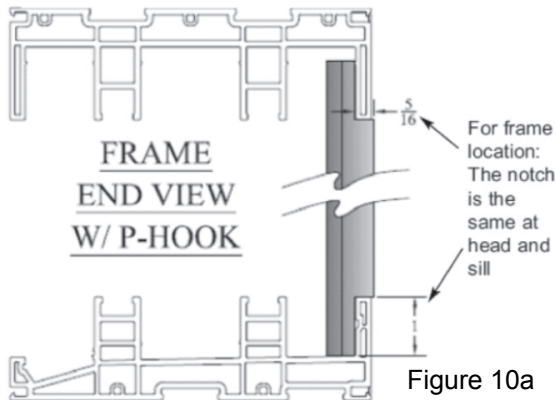
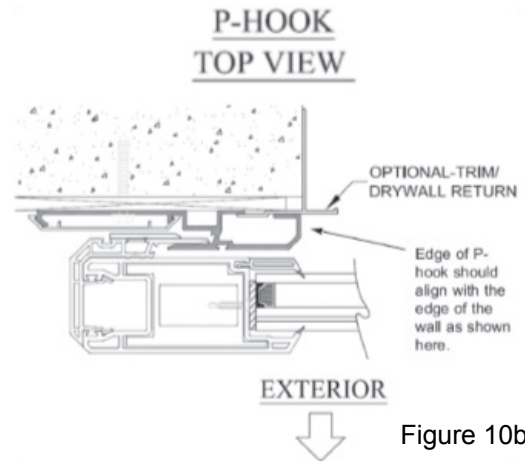

Figure 10a
Figure 10b
7. By-pass doors, skip to Step 9; Pocket Doors Only: Seal under entire length of P-hook (Item 12) and position it on the wall at the pocket opening aligning the notches with the frame head and sill (Figure 10a). The edge of the P-hook should align with the edge of the wall (Figure 10b).